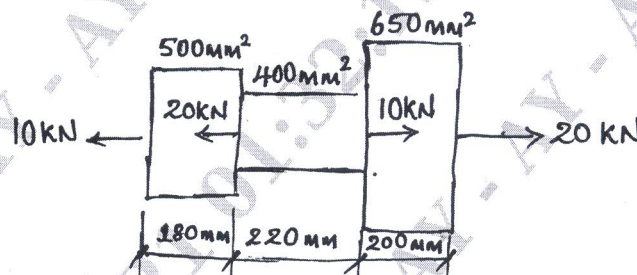

Fig.Q2(b)
- A stepped bar is subjected to forces as shown in Fig.Q2(b). Determine: